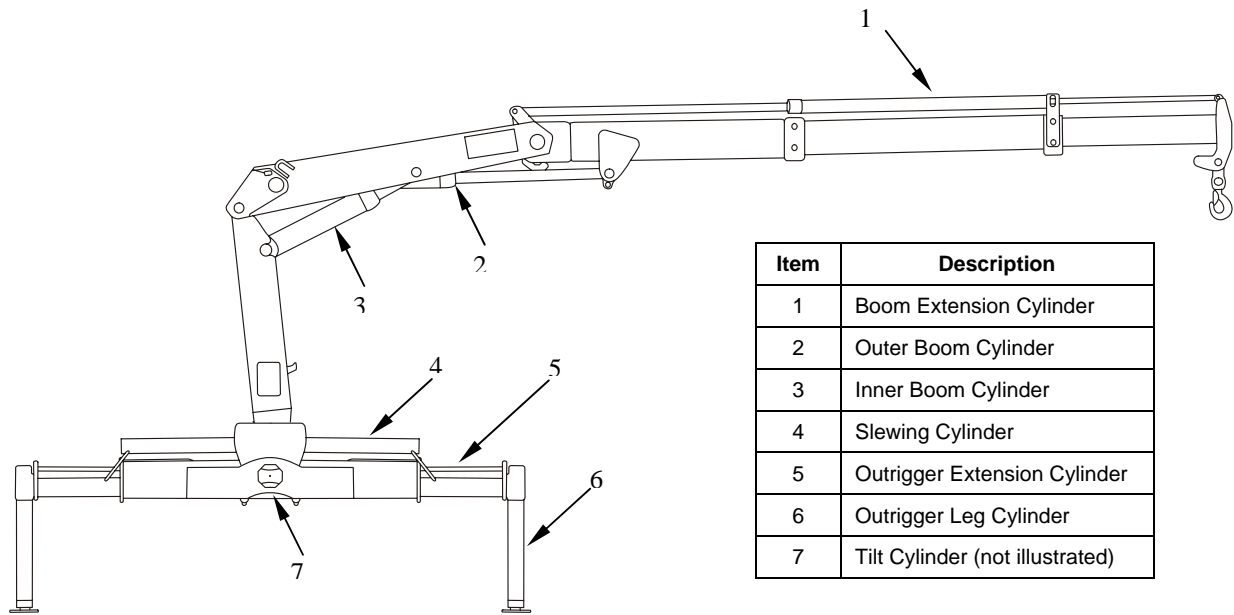

Figure 8 Major Crane Components
- 23. Removal.** To remove the inner boom cylinder, proceed as follows (see Figure 8, Item 3):
- 25. Removal.** To remove the outer boom cylinder, proceed as follows (see Figure 8, Item 2):
- 27. Removal.** To remove the boom extension cylinder, proceed as follows (see Figure 8, Item 1):
29. Removal. To remove the outrigger leg cylinder, proceed as follows (see Figure 8, Item 6):
31. Removal. To remove the outrigger extension cylinder, proceed as follows (see Figure 8, Item 5):
33. **Removal.** To remove the tilt cylinder, proceed as follows (see Figure 8, Item 7):